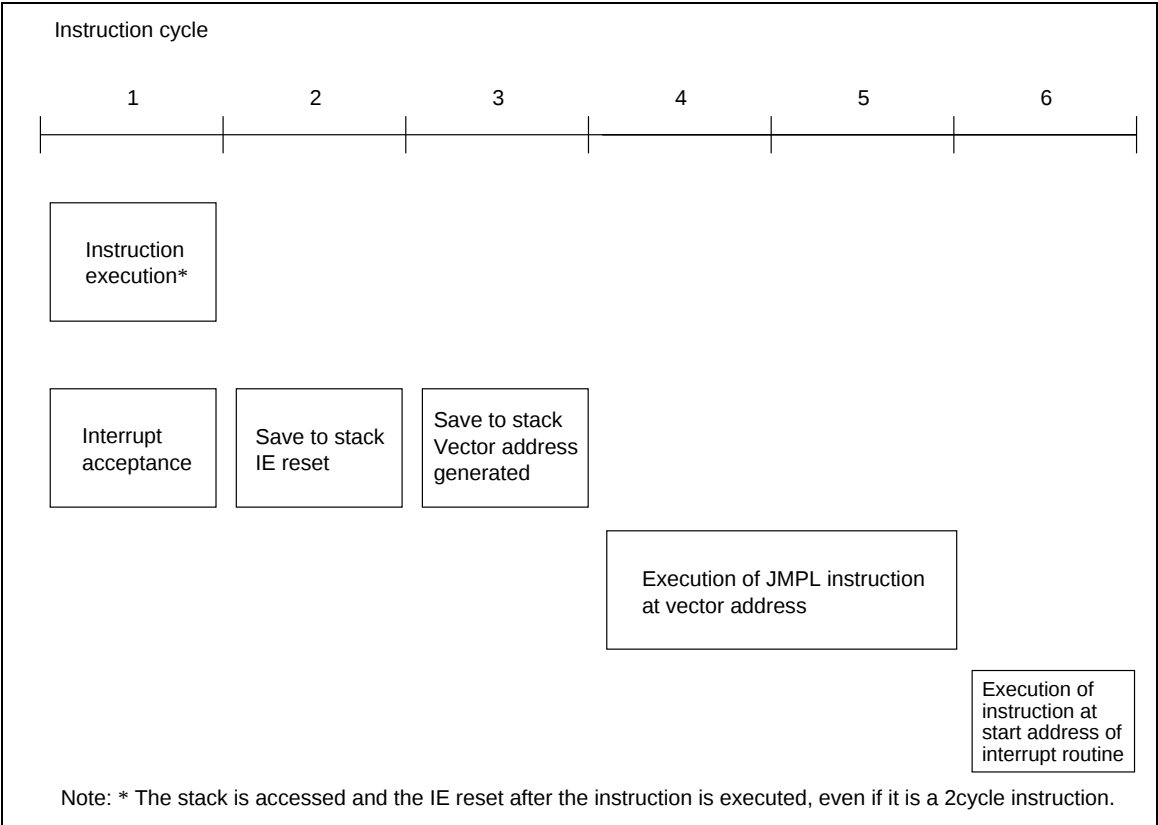
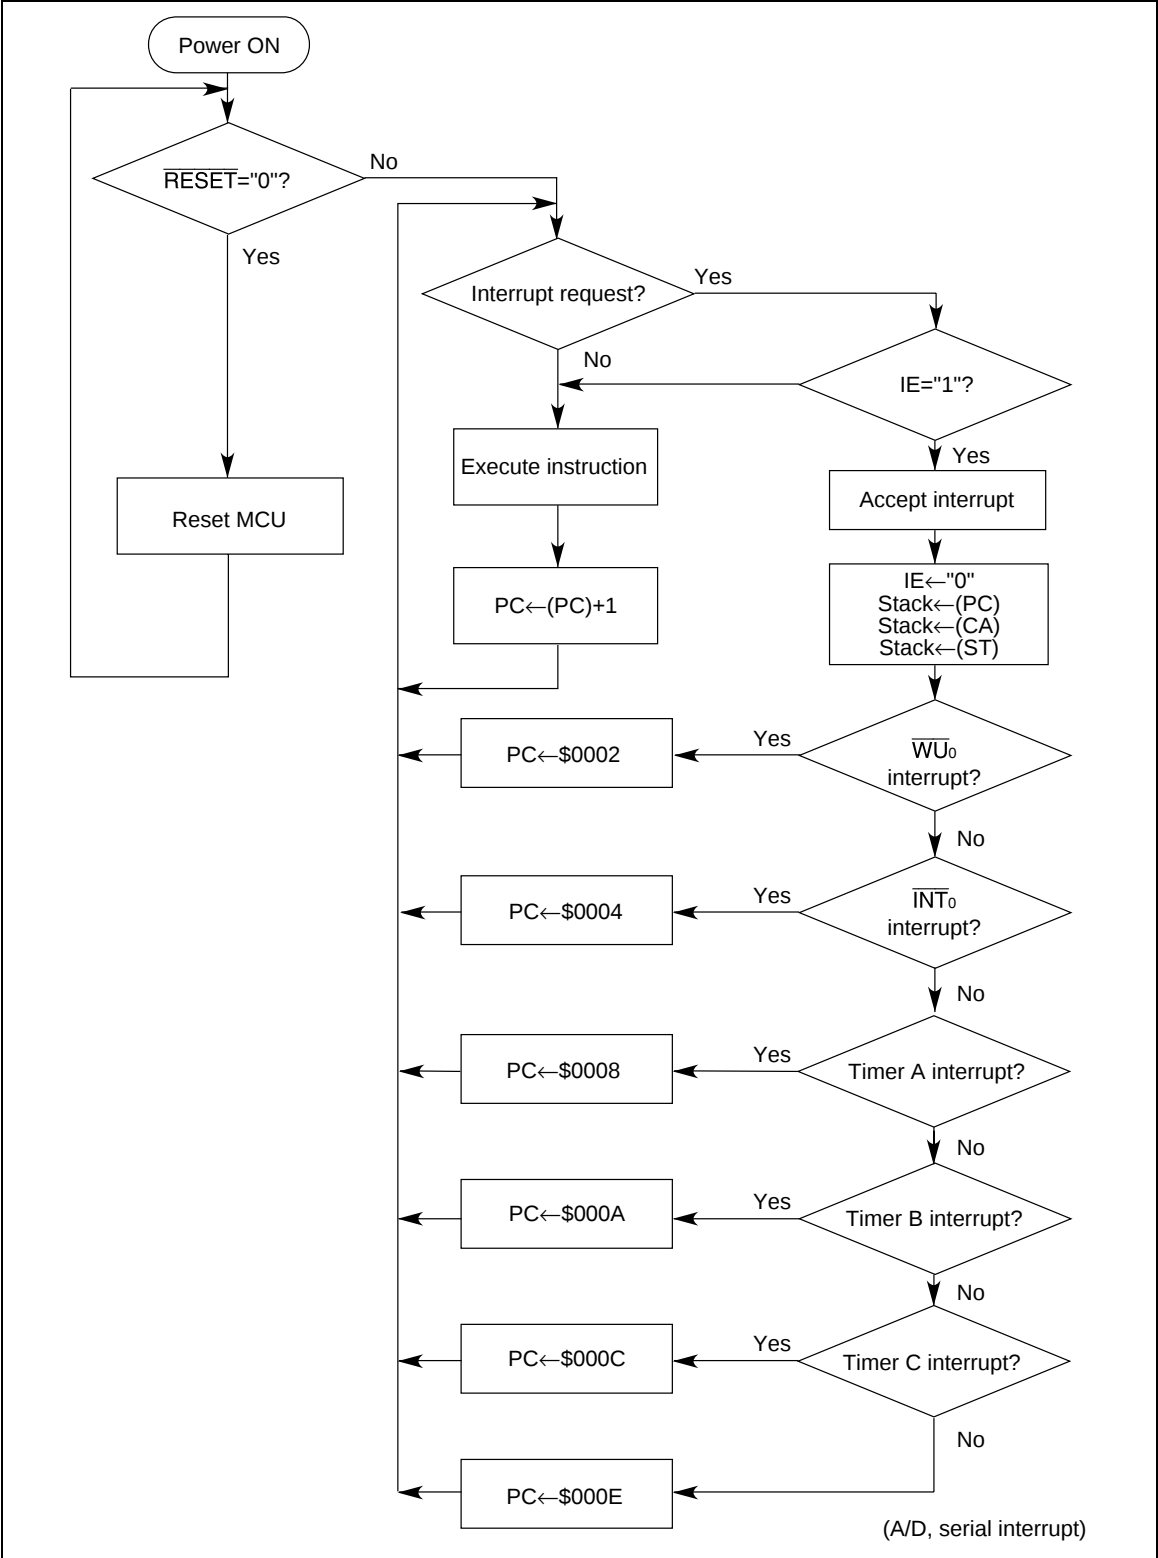

Figure 9    Interrupt Sequence
Figure 10 Interrupt Handling Flowchart
The interrupt handling sequence is shown in figure 9, and the interrupt handling flowchart in figure 10. When an interrupt is accepted, execution of the previous instruction is completed in the first cycle. In the second cycle, the interrupt enable flag (IE) is reset. In the second and third cycles, the contents of the carry flag, status flag, and program counter are saved on the stack. In the third cycle, a jump is made to the vector address and instruction execution is resumed from that address.